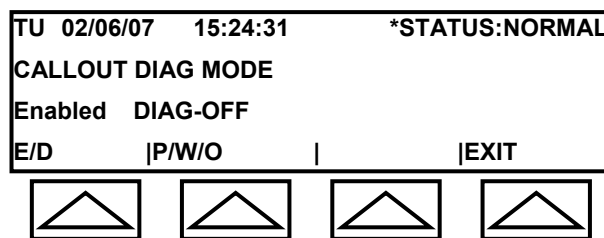
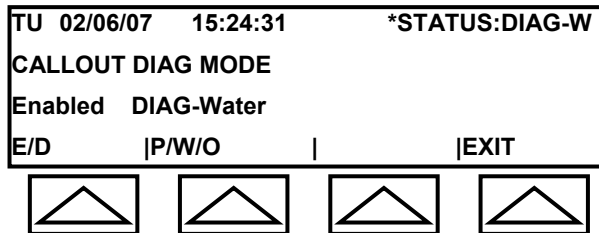
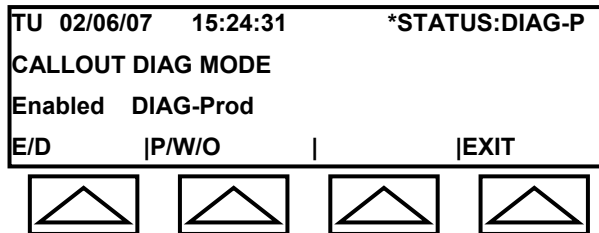

Fig. 3-25a: DIAG Submenu (Off)
Fig. 3-25b: DIAG Submenu (Water)
Fig. 3-25c: DIAG Submenu (Product)
The DIAG Submenu (see Figure 3-25a) is entered from Screen #5 of the MAIN Menu. It allows you to enable/disable communications with remote sites and test alarms for product and water levels
- ◆ P/W/O – permits testing alarms to ensure that they will trigger when product or water reaches programmed levels. Repeatedly selecting this field will cycle through product, water, and off. When you select OFF, the LCD will display Figure 3-25a. When you select water, it will display Figure 3-25b, and when you select product, it will display Figure 3-25c.
1. Select water or product. LCD will display selected test (see Figures 3-25b and 3-25c).